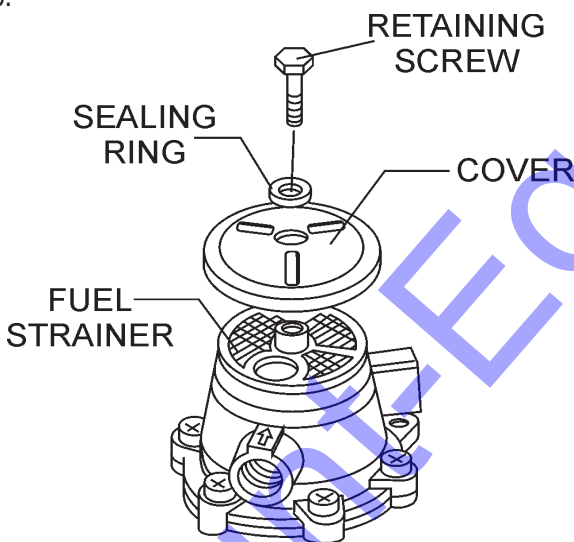

Figure 18. IMSA Fuel Filter
Inspect and clean (replace if necessary) the IMSA fuel filter (Figure 18) every 500 hours. This filter is part of the fuel pump.
1. Close the fuel shut-off valve and loosen the retaining on the IMSA fuel filter (Figure 18).
2. Open the drain plug on the fuel water separator (Figure 18) to remove any sediment or water that may have accumulated in the fuel water separator reservoir.